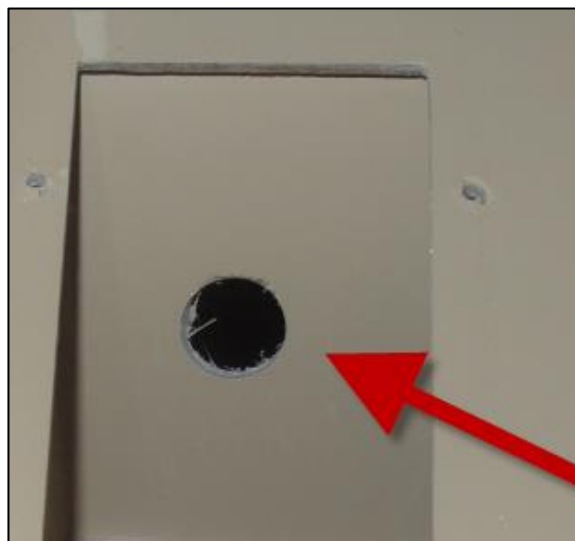

FIGURE 18
24. From the inside of the toilet moulding, roughen the mounting surface with paper sand or a Scotch Brite to improve adhesion of the glue (Figure 18).